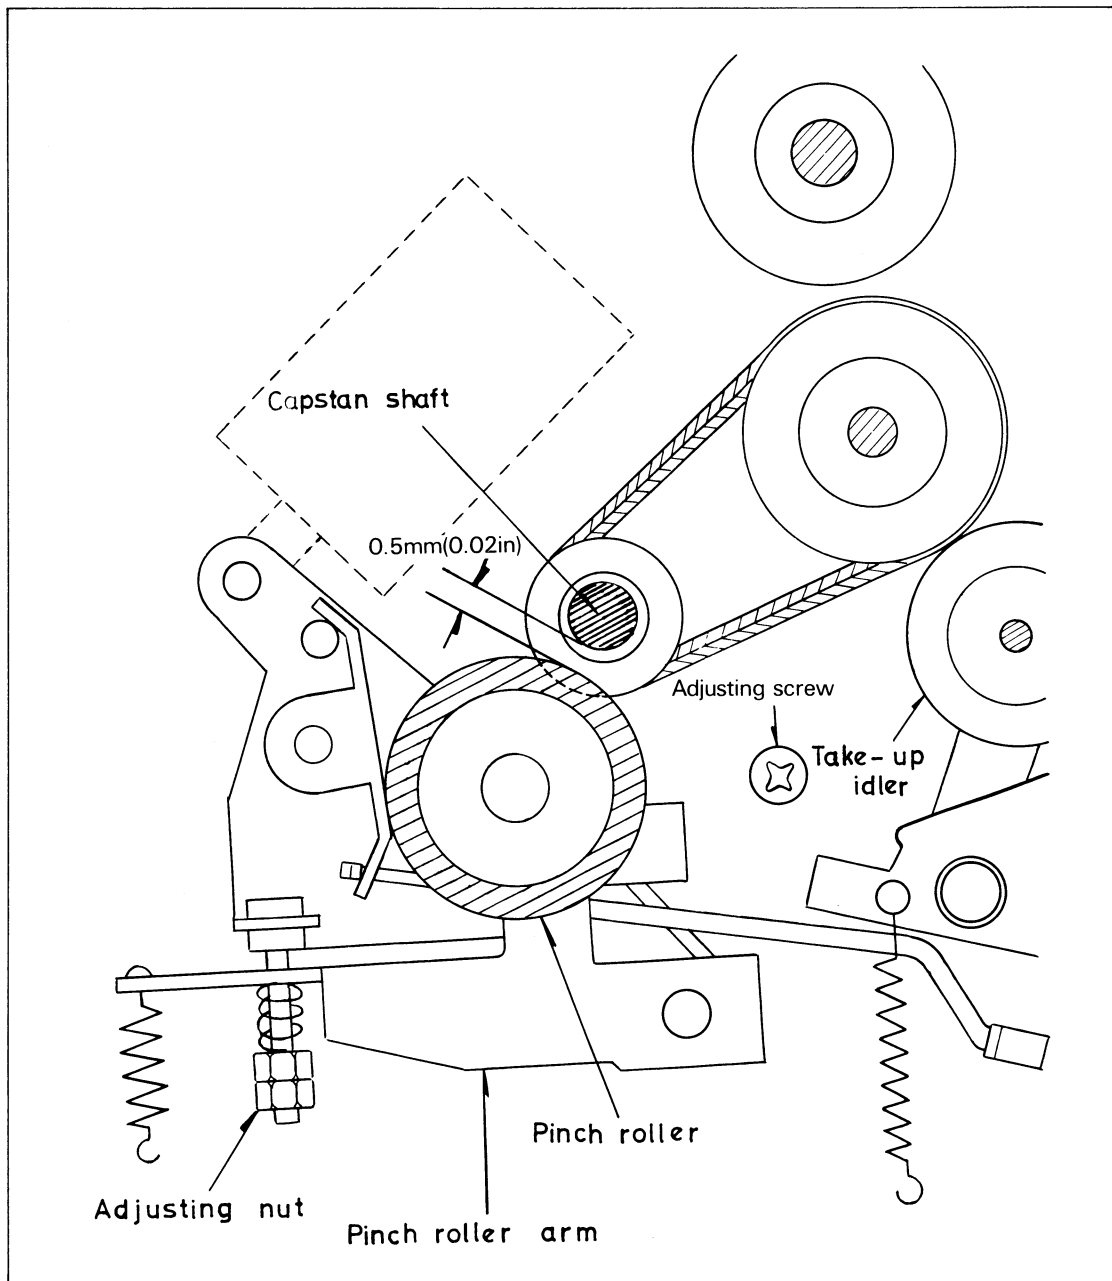

Fig. 6-10.
4. Then, set the VTR to STOP mode. The gap between the pinch roller and the capstan shaft should be 0.5mm (0.02 in.) or more. Refer to Fig. 6-10.
10. If tilting is present, turn the adjusting screw in the appropriate direction and reglue. See Fig. 6-10.